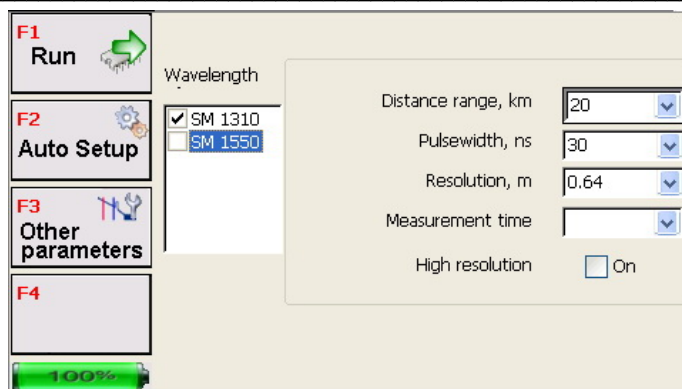

Figure 7.3
For this purpose, press the button **F2** →  of the main menu – the window shown in Figure 7.3 will become activated.
7.3.1.2 The measuring parameters indicated in the window of **Figure 7.3** are designed for: